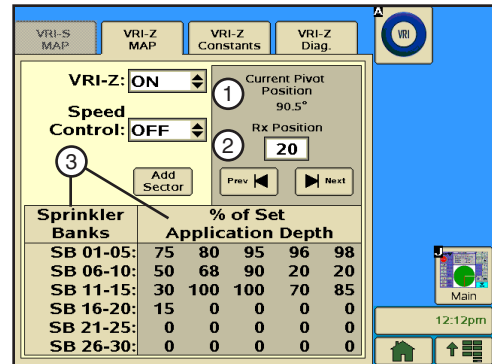

Figure 54-1 1. Current Pivot Position Field
1. Push **Options**, **VRI**, **VRI-Z Map** to display the VRI-Z Map screen. Refer to Figure 54-1.